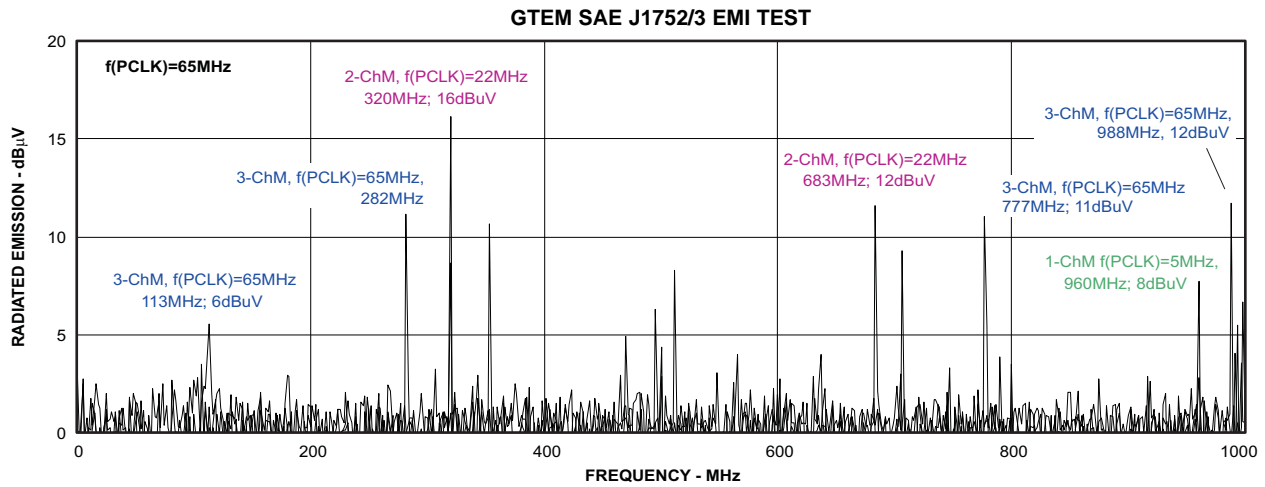

Figure 35.
- A. **Figure 35** shows a superimposed image of three EMI measurements with the device operating at  $f(\text{PCLK}) = 5\text{MHz}$ ,  $f(\text{PCLK}) = 22\text{MHz}$ , and  $f(\text{PCLK}) = 65\text{MHz}$ . This excellent EMI performance meets the system requirements of dense, mobile designs with a noise floor of  $\sim 2\text{ dB}\mu\text{V}$  ( $\sim 105\text{ dBm}$ ) and all spurs being smaller than  $16\text{ dB}\mu\text{V}$  ( $\sim 101\text{ dBm}$ ). The test was performed in compliance with the SAE J1752/3 EMI test guidelines.